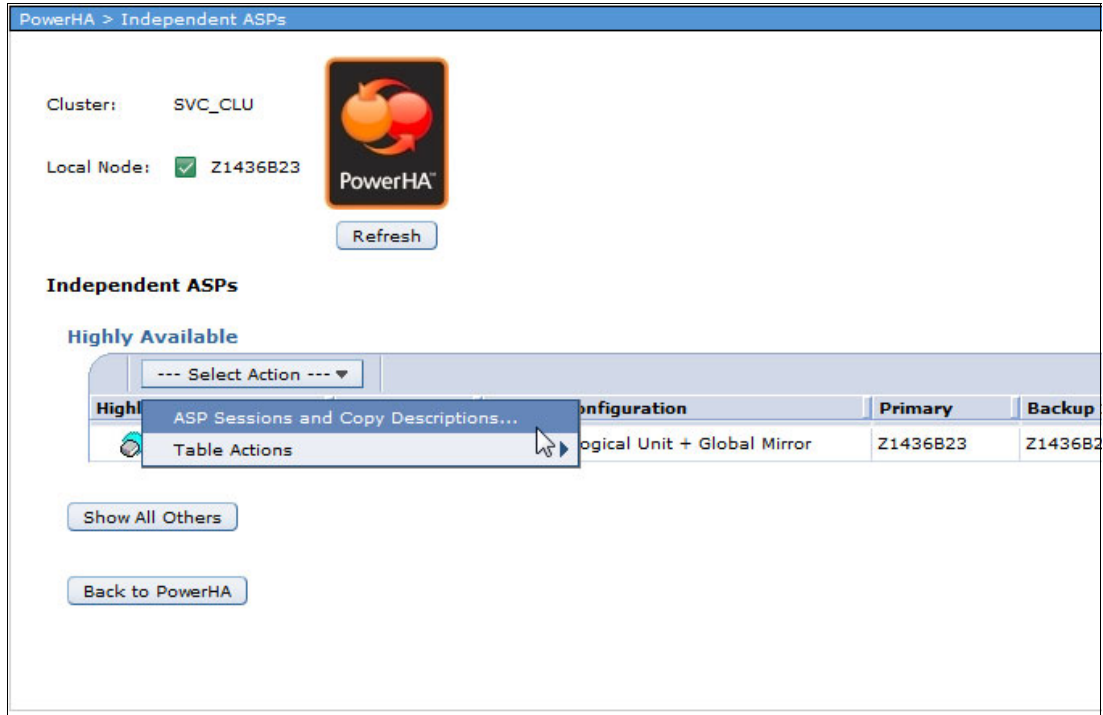

Figure 4-59 Adding LUNs to ASP session and copy description
- a. From **Independent ASP** link in the PowerHA GUI, select **ASP Sessions and Copy Description** from the Select Action pull-down menu, as shown in Figure 4-59.